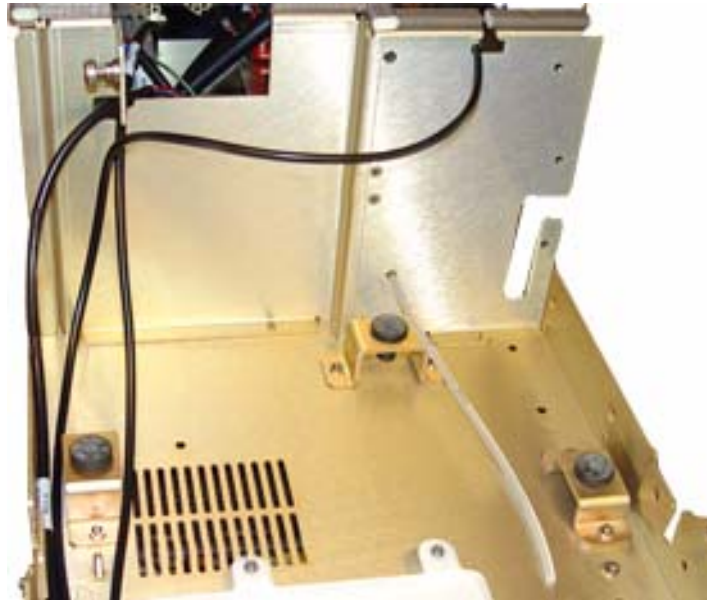

Figure 6 - Cables Remaining Under Optics Bench
14. All remaining cables will stay in place beneath the optics bench. These include cables for the ON/Off switch, the LED's and the power connector on the bezel (Figure 6).